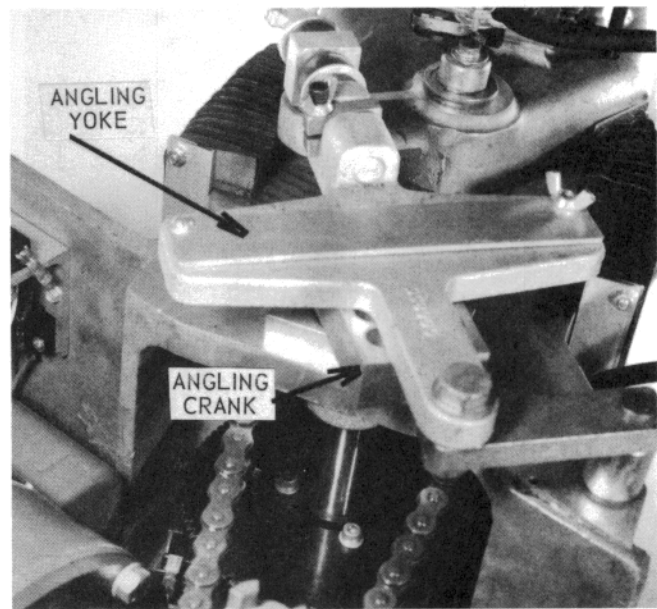

Figure 84 — Angling Crank and Angling Yoke
6.1.23 Reinstall the angling crank and angling yoke (see Figure 84).